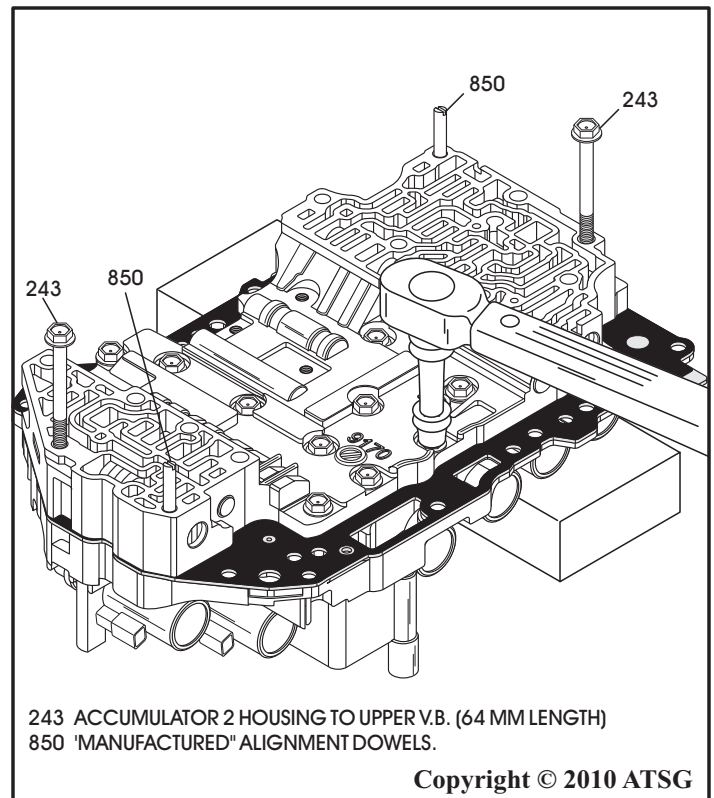

Figure 157
24. With all alignment dowels in place, torque the 10 installed valve body bolts to 9 N·m (80 in.lb.), as shown in Figure 157, beginning in the center and working outward in a circle.